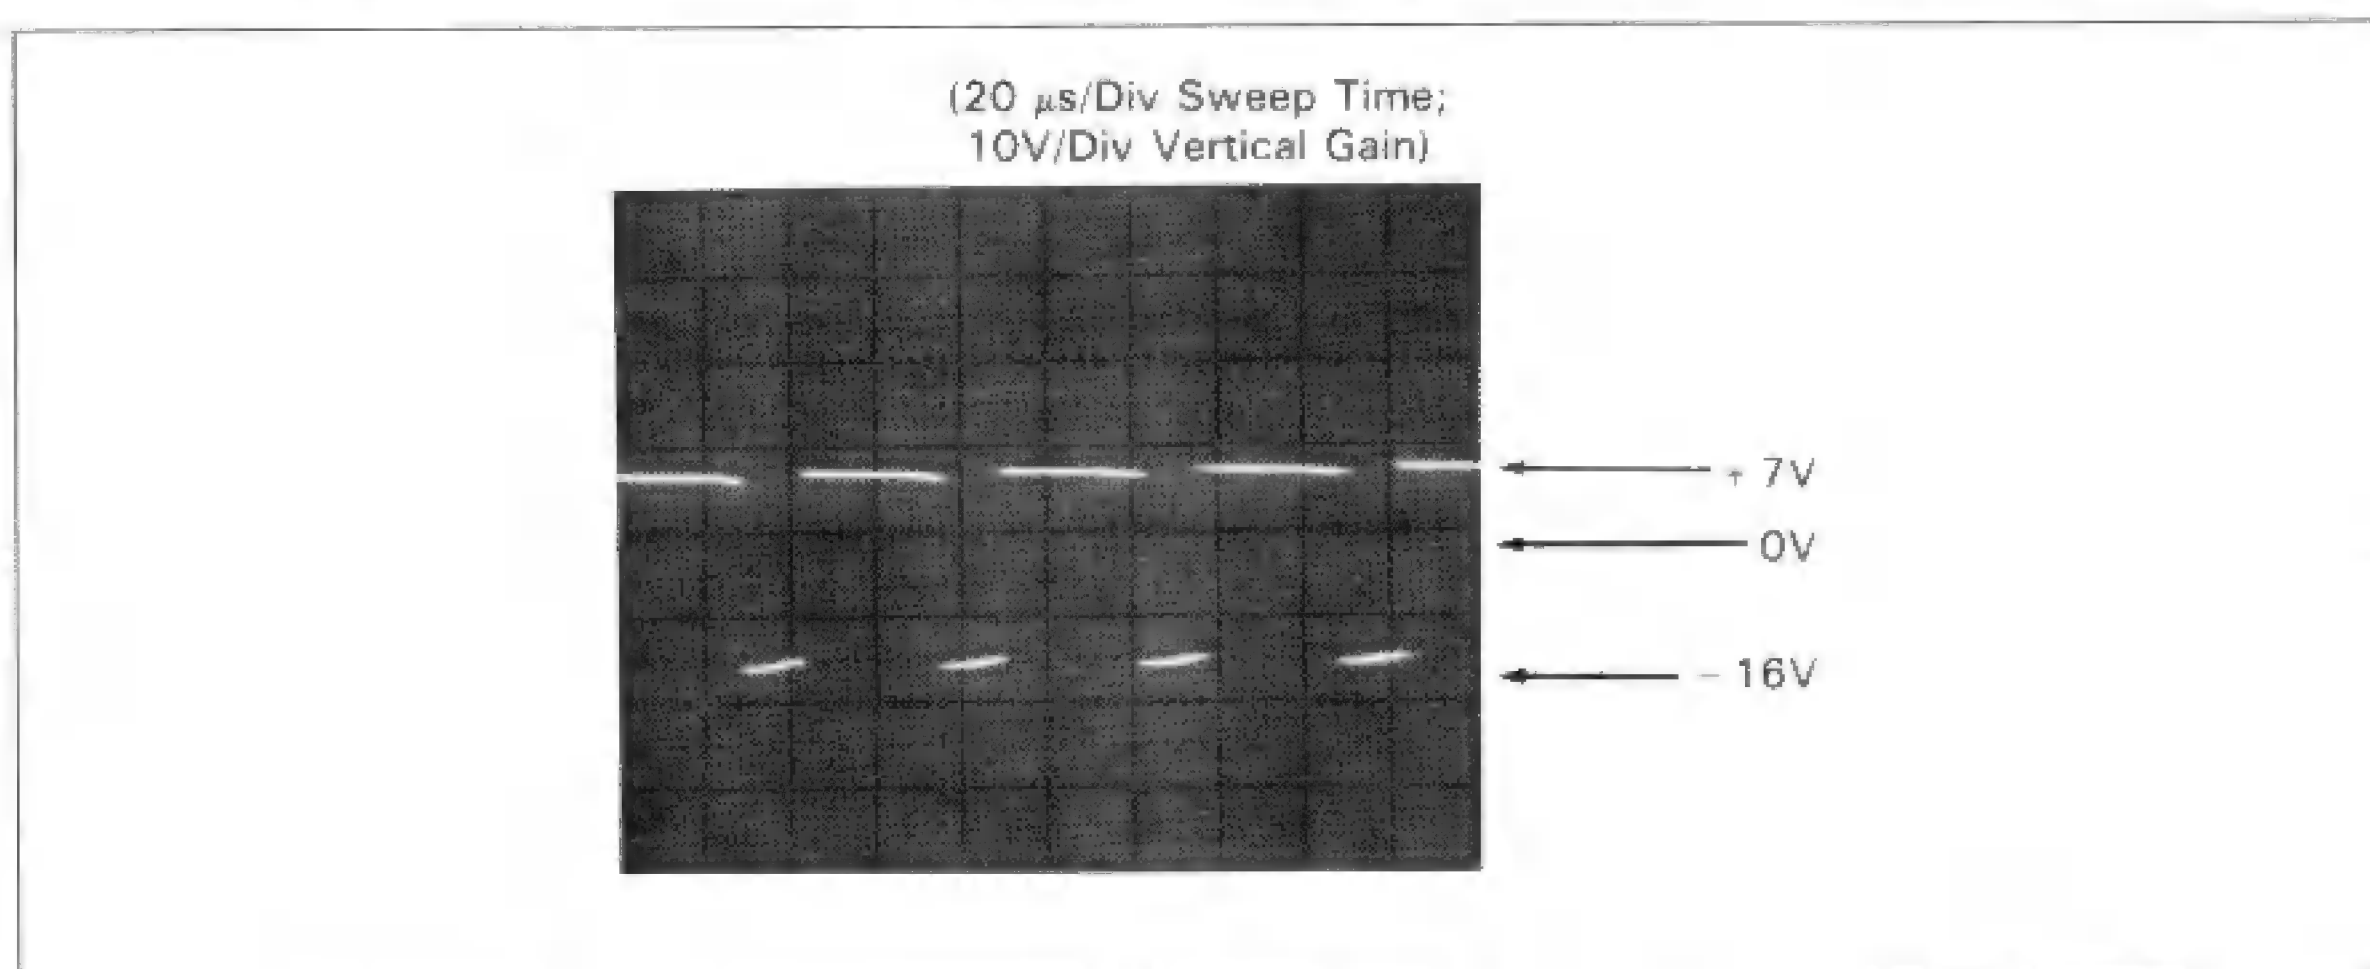

Figure 1-8-F-2. Q704 Collector Waveform
g. Using an oscilloscope set to a  $20\mu\text{s}/\text{div}$  sweep time and a  $10\text{V}/\text{div}$  vertical gain, check the collector of Q704 for the waveform shown in Figure 1-8-F-2. If it is incorrect, first check CR711. If CR711 is OK, check Q704 and Q705. If Q704 and Q705 are good, replace T701.